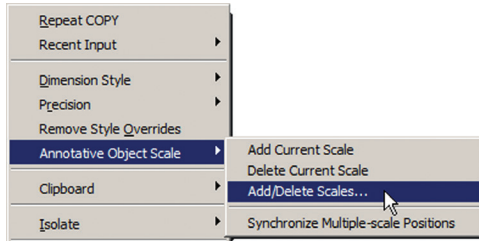

FIGURE 13.5 Annotative text shown in two scales
9. Change the Annotation Scale to $1/2" = 1'-0"$ (or 1:20 for metric) in the status bar. The text you created appears much smaller. This text will appear $1/8"$ high in $1/2" = 1'-0"$ scale (or 0.4 cm in 1:20 scale). Select the text object and observe both scales simultaneously (see Figure 13.5). Press Esc to deselect.